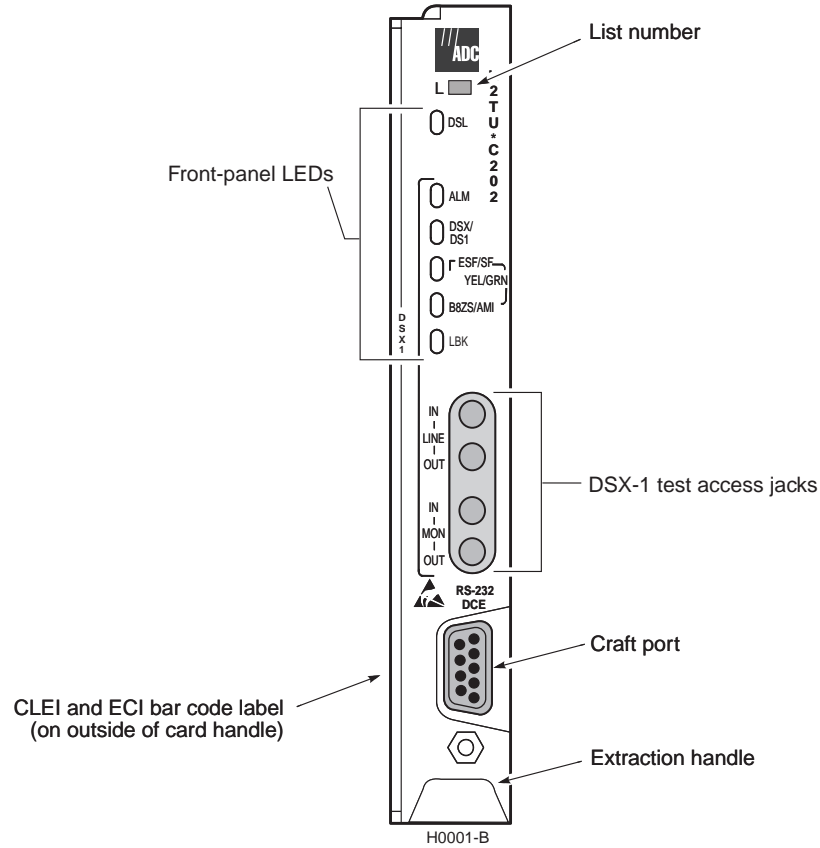

Figure 1. H2TU-C Front Panel
Figure 1 shows the H2TU-C front panel. Table 3 on page 7 describes the front-panel components. For pinout diagrams of the H2TU-C card-edge connector and craft port, refer to “Appendix A - Specifications” on page 51.
- 1 Connect a standard 9-pin terminal cable to the RS-232 craft port on the H2TU-C front panel (Figure 1 on page 3).